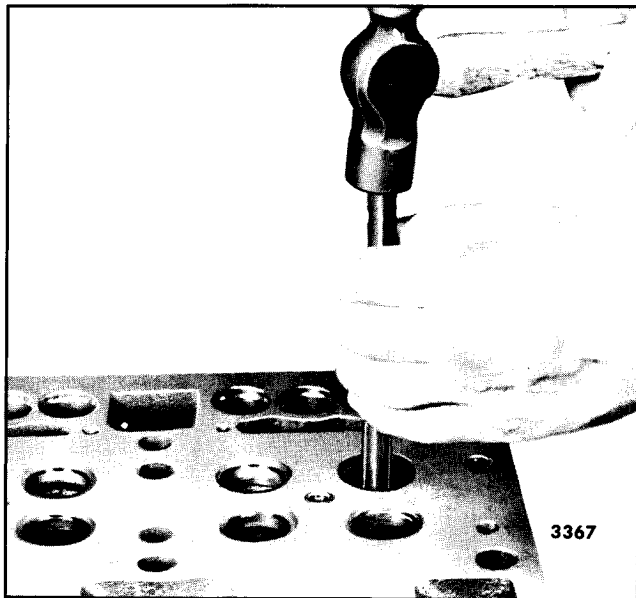

Fig. 5 - Removing Valve Guide
3. Drive the valve guide out of the cylinder head with valve guide remover J 6569 (two-valve head) or J 7775 (four-valve head) - (Fig. 5).